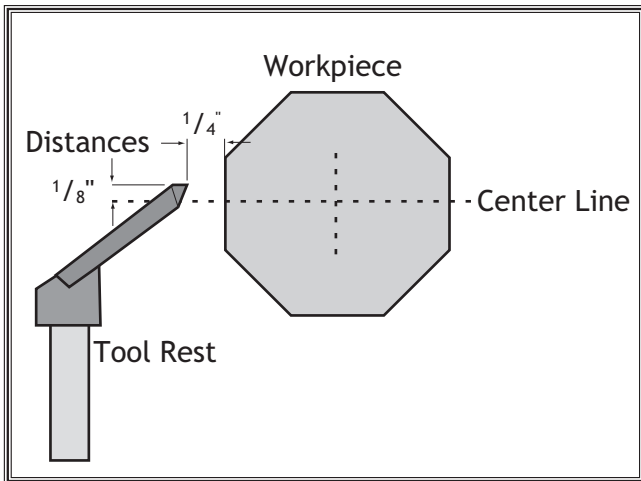

Figure 15. Tool rest set $\frac{1}{8}$ " above the centerline and $\frac{1}{4}$ " away from workpiece.
- Position the tool rest approximately $\frac{1}{8}$ " above the center line of the workpiece and approximately $\frac{1}{4}$ " away from the workpiece. See **Figure 15** for more details.
- When turning pieces thicker than 2" x 2", cut off the corners first (so the workpiece profile looks similar to the illustrated workpiece in **Figure 15**). **Figure 17** shows a workpiece too big for turning with the corners still on.